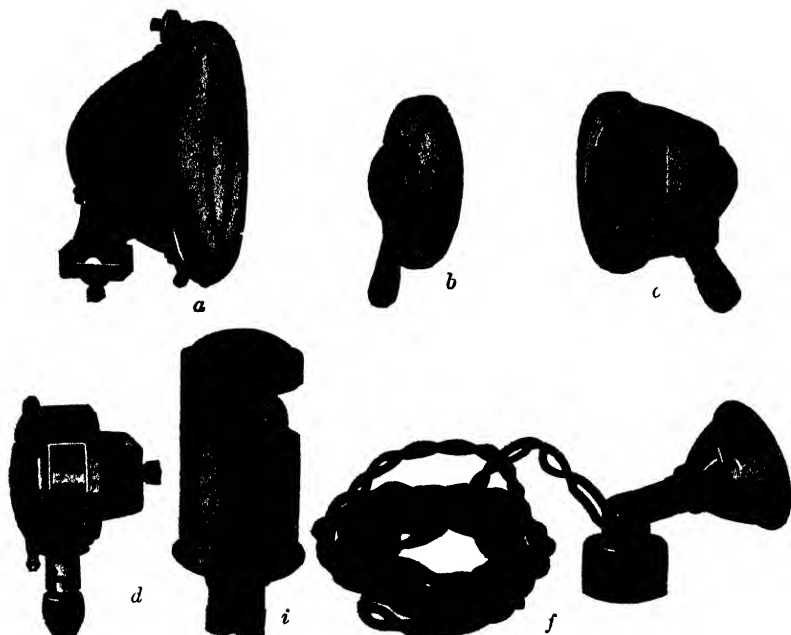

Fig. 22 Types of Side, Dash, Tail, and Trouble-Hunting Lamps
*Types for Various Locations.* Fig. 22 -a, -b, -c, -d, and -i show the usual types of lamps employed. These are, in the order given, an outside side lamp, flush-type side lamp, two types of electric tail lamps, and a cowl or dash lamp for illuminating the instruments, such as the ammeter, oil telltale, and the like. Fig. 22-f shows a magnetic trouble-hunting lamp, the base of which attaches itself to any metal part of the chassis.